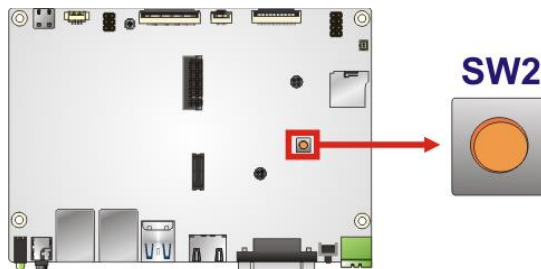

Figure 3-12: Reset Button Location
- CN Location:** See Figure 3-12